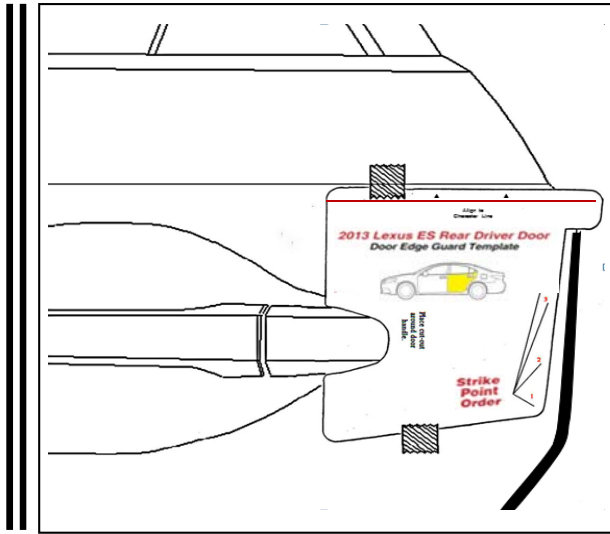

Fig. 1-4
(3) Align the top edge of the DEG (labeled Rear Driver with Green sticker), with the lower edge of the template alignment notch as shown (Fig 1-4).
**⚠ NOTE:** The top of the DEG can be identified by matching the profile of the DEG to the door profile (Fig 1-4).